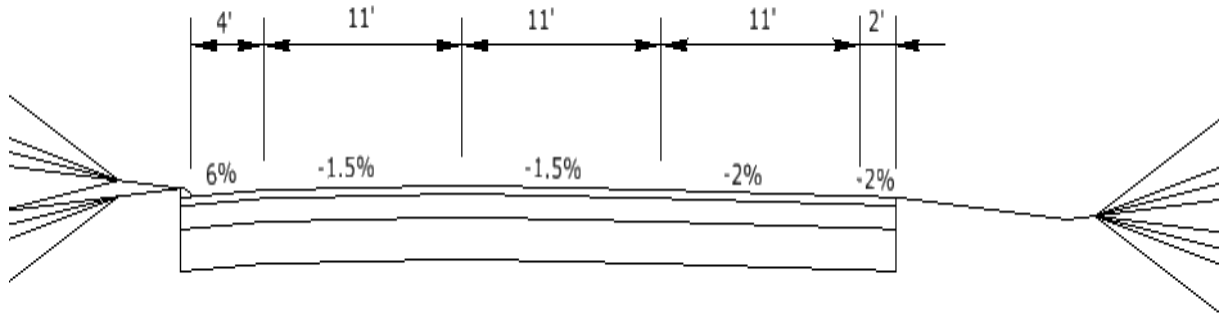

Figure 6-19 Typical Section for CT_Rdwy2
- Use the detail in Figure 6-19 as a guide. Notice the two (2) foot shoulder and two percent (2%) cross slope.